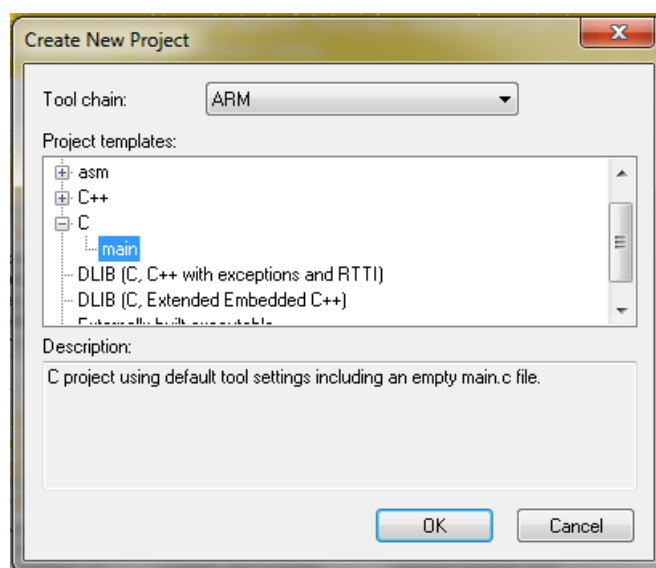

Figure 1-38. Create New Project dialog
2. In the main menu, select Project > Create New Project... so that the "Create New Project" dialog appears. See Figure 1-38.